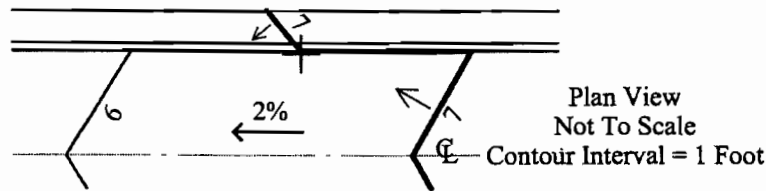

Figure 3-45. Drawing the Contour Line
Step 3. Draw the contour line as shown in Figure 3-45. Observe the relationship of the point where contour line 7 on the road surface meets the face of the curb, then runs along the curb face, and finally mounts the curb at a point halfway downslope toward contour 6.